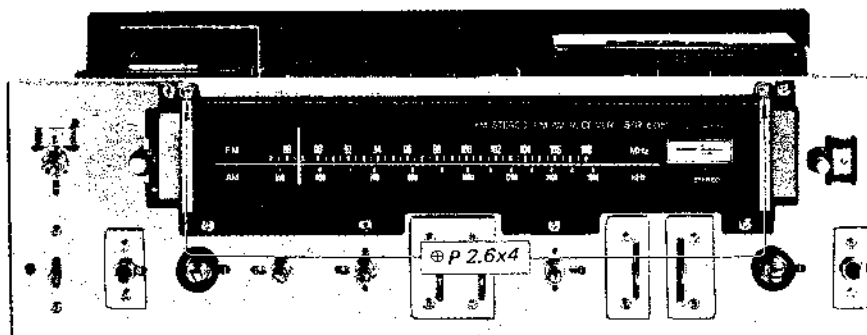

Fig. 2-12. Dial scale removal
3. Remove the two screws (\ominus P 2.6x4) securing the dial-scale holder to the front subchassis as shown in Fig. 2-12.